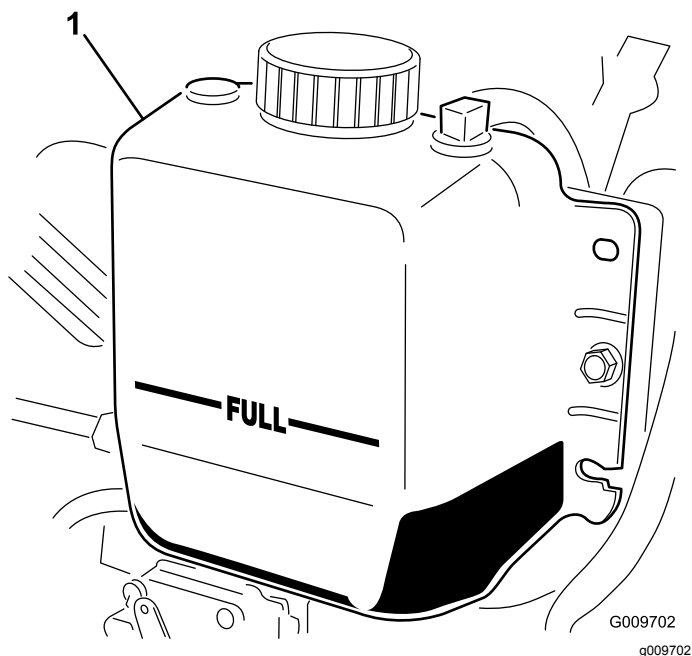

Figure 17
2. Check the coolant level in the radiator. The radiator should be filled to the top of the filler neck and the expansion tank filled to the FULL mark (Figure 17).